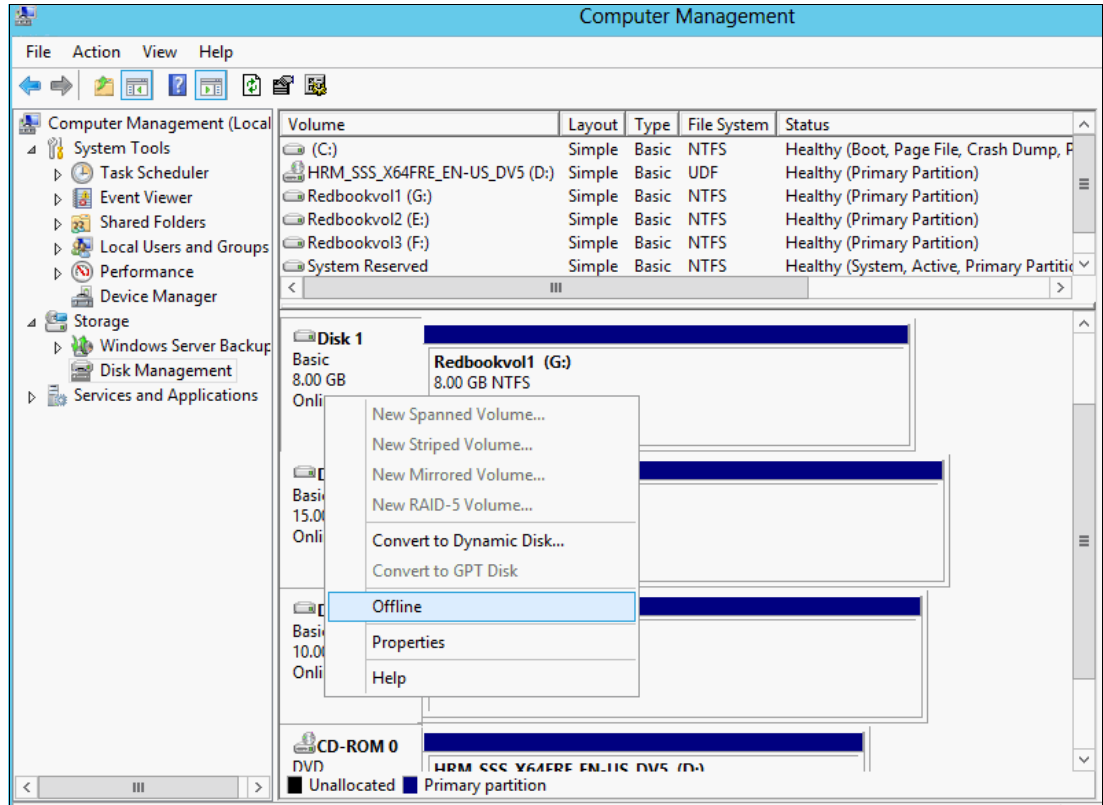

Figure 6-20 Offlining DS3200 volumes from Windows 2012
1. To stop host I/O, stop all of the applications using the volumes and set them offline. From the Windows 2012 Server Manager Dashboard select **Tools** → **Computer Management** → **Storage** → **Disk Management**, as shown in Figure 6-20.